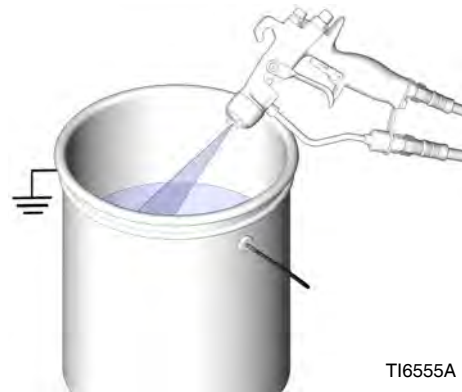

FIG. 11
5. Hold a metal part of the gun firmly to a grounded metal pail. Trigger the gun to relieve pressure. See FIG. 11.